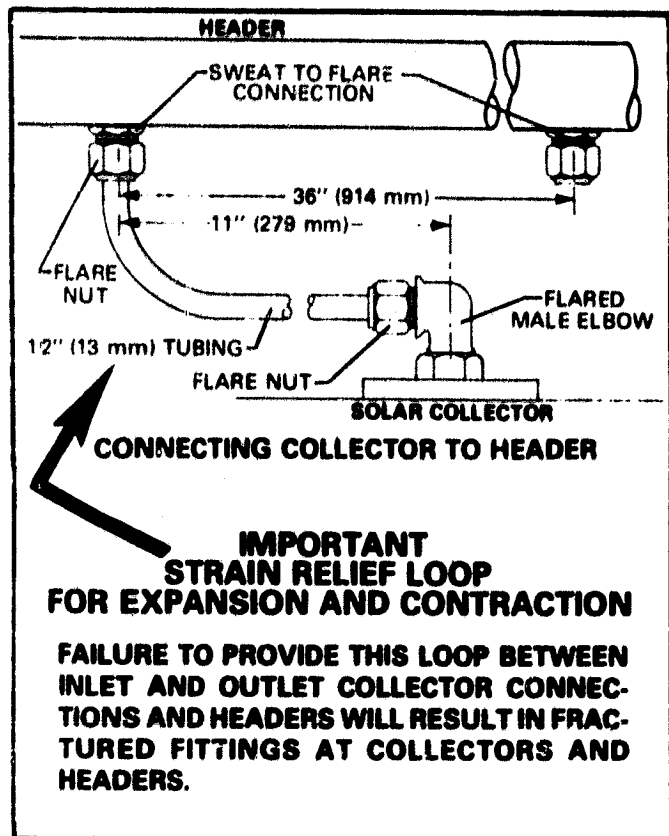
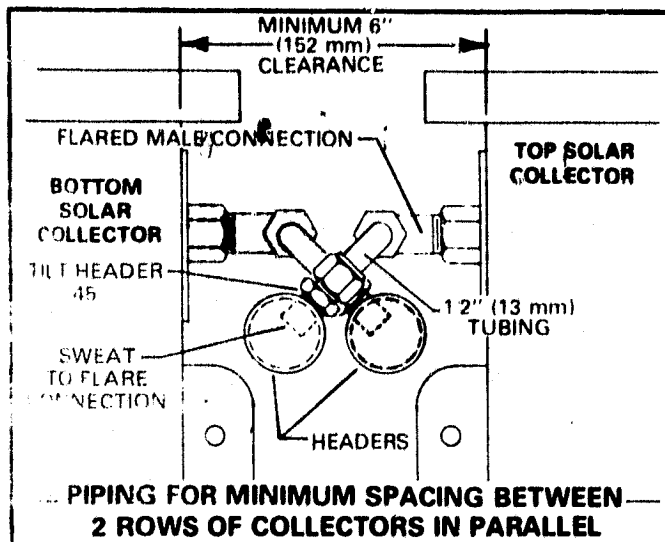

FIGURE 16
FIGURE 17
- 3 - A 3/8 inch sweat to 1/2 flare fitting must be soldered into each header at 36 inch intervals. Install a flare male elbow at the collector and connect piping as shown in Figure 16. In a two row parallel application, the return and supply headers can be piped according to Figure 17 to minimize collector spacing.